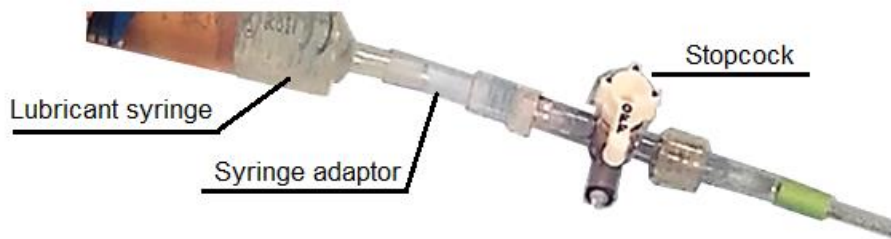

Figure 11: Lubricant syringe with adaptor and stopcock
- a. Connect the provided three-way stopcock and the syringe adapter to both the green and black-labeled channels (*Figure 11*).
- b. Connect the provided low-viscosity lubricant syringes to the syringe adapters by pressing the taper on the syringe into the syringe adapter tubing (*Figure 11*).